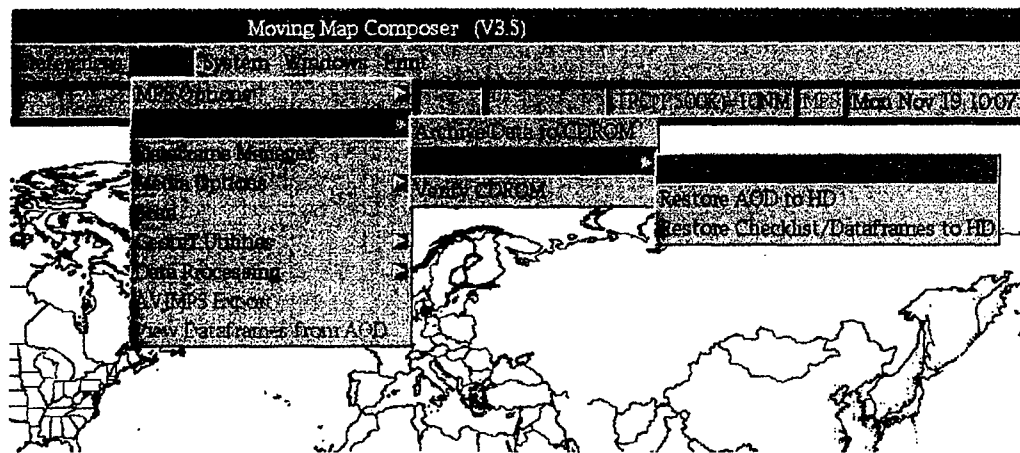

Fig. 39 — CDROM Restore options
3.3.6.2.2 Restore Options — Restores previously logged sources from CD to hard drive (Fig. 39). The following options are provided: